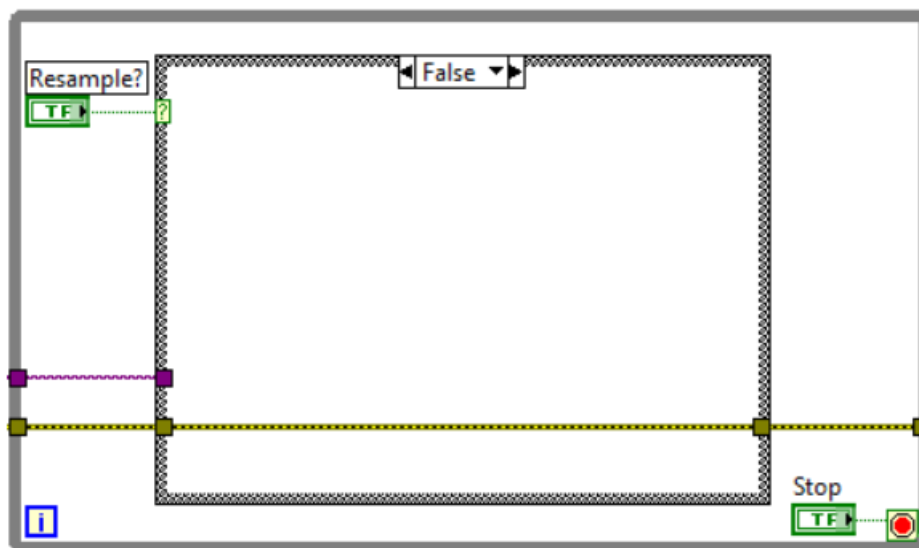

Figure 12: Block Diagram for "False" Case Structure
15. Refer to Figure 12 for "False" **Case Structure** wiring.